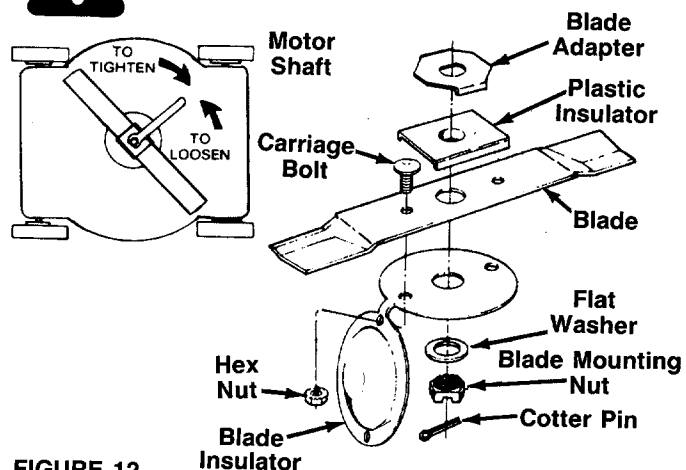

FIGURE 12.
To remove the blade, turn the lawn mower on its side. Remove the two hex nuts. Open the blade insulator. Remove the cotter pin, blade nut, flat washer, blade insulator and carriage bolts. See figure 12.
When reassembling the blade, all parts **must** be assembled in the exact order as shown in figure 12. Tighten the blade mounting nut securely (35-40 ft. pounds of torque). Make certain slot in blade mounting nut is aligned with hole in motor shaft (tighten slightly more if necessary). Re-insert the cotter pin, bending ends in opposite directions to secure. Check blade at frequent intervals to be certain it is tightened properly.
**WARNING:** All parts must be reassembled as shown in figure 12.